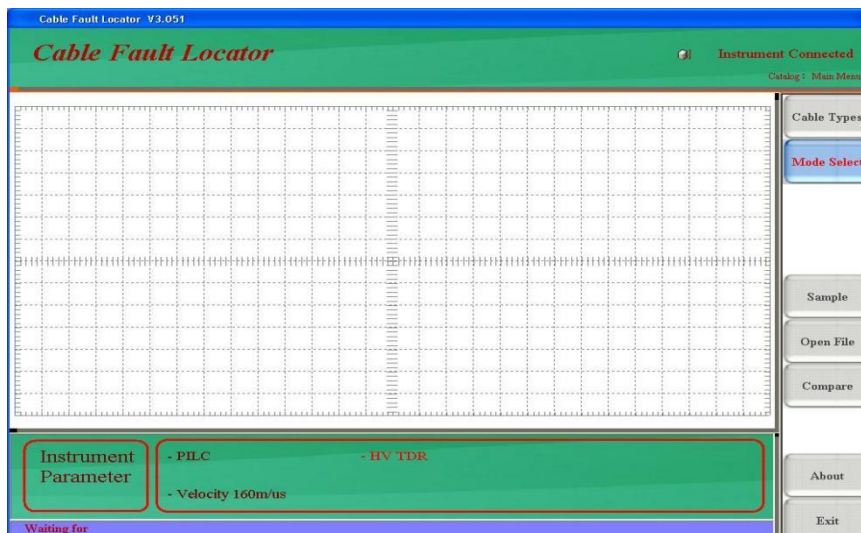

Fig 6-6
C. Press the "Cancel Sampling" key, and the instrument will stop sampling. The interface is shown in Figure 6-6 below. Move, expand and compress the waveform left and right through the overall waveform control area to make the waveform reach the best analysis state. Then use the touch pen to drag the double cursors (click the cursor and move it after it turns green) or switch and move the cursor left and right in the cursor control area (you can move it in coarse, medium and micro gears) to judge the
**A.** In the function setting area of the main interface, select the cable type, select the detection method high-voltage flashover method, and the work indicator light displays red. As shown in Figure 6-6.